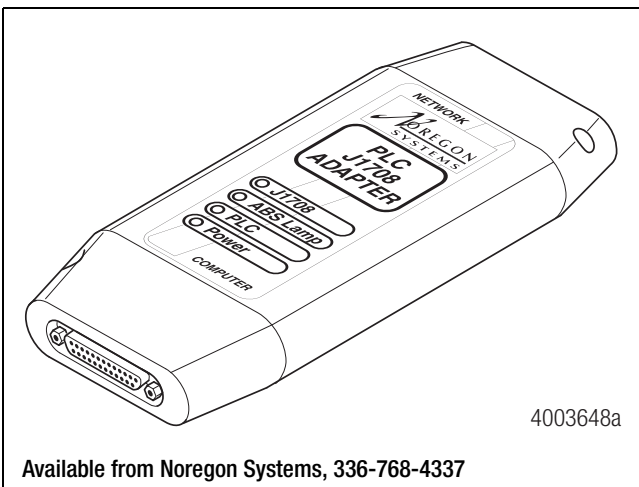
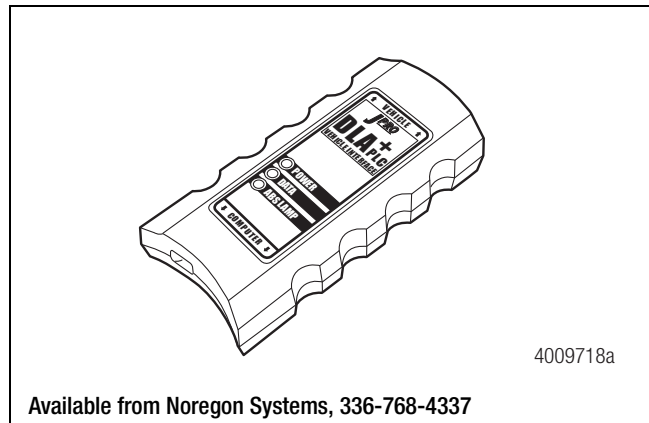

Figure 5.4
Figure 5.5
- Use as a tractor/trailer tester to ensure that PLC is functioning correctly. Figure 5.4 and Figure 5.5.